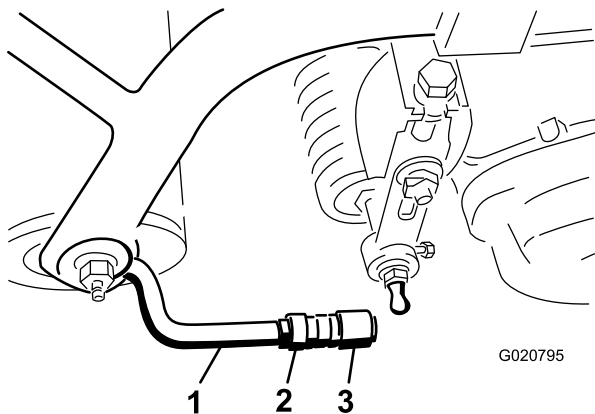

Figure 7
5. Align the sockets in the ball joints so the open side of the socket is centered toward the ball stud, and tighten the jam nuts to secure the sockets in position (Figure 7).